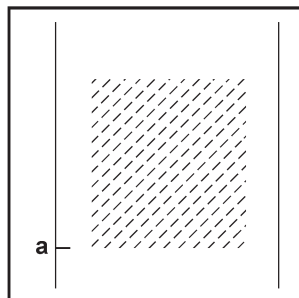

Figure 2
2. Mark "a" on the side of the lane in line with the bottom of the legend (see Figure 2).